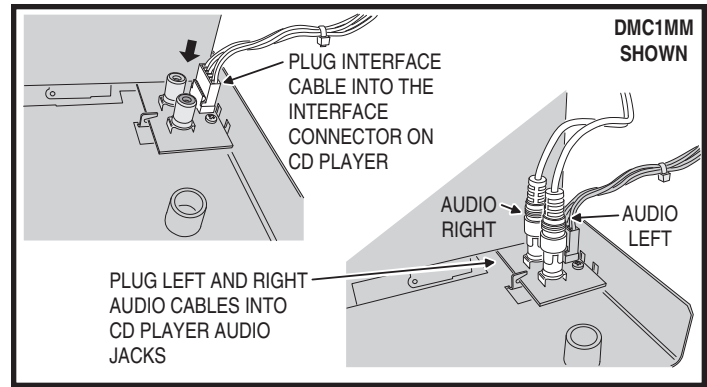

Figure 25. dmc1MM iPod® Dock MP3 & CD Player Interface and Audio Cable Connection
9. Insert the CD Player interface cable into the INTERFACE connector on the CD Player (see Figure 25 or 27).
10. Insert the CD audio cable's BLACK RCA plug into the AUDIO LEFT jack on the CD Player, then insert the cable's RED RCA plug into the AUDIO RIGHT jack on the CD Player (see Figure 25 or 27).